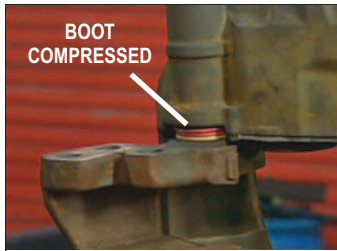

FIGURE 84 - BOOTS MUST BE COMPRESSED FULLY DURING CAP INSTALLATION
5.6.37 See *Figure 84*. Place the caliper/carrier assembly on a bench so that the inner boots are fully compressed, check that the bores are clean and dry (e.g. free from lubrication).